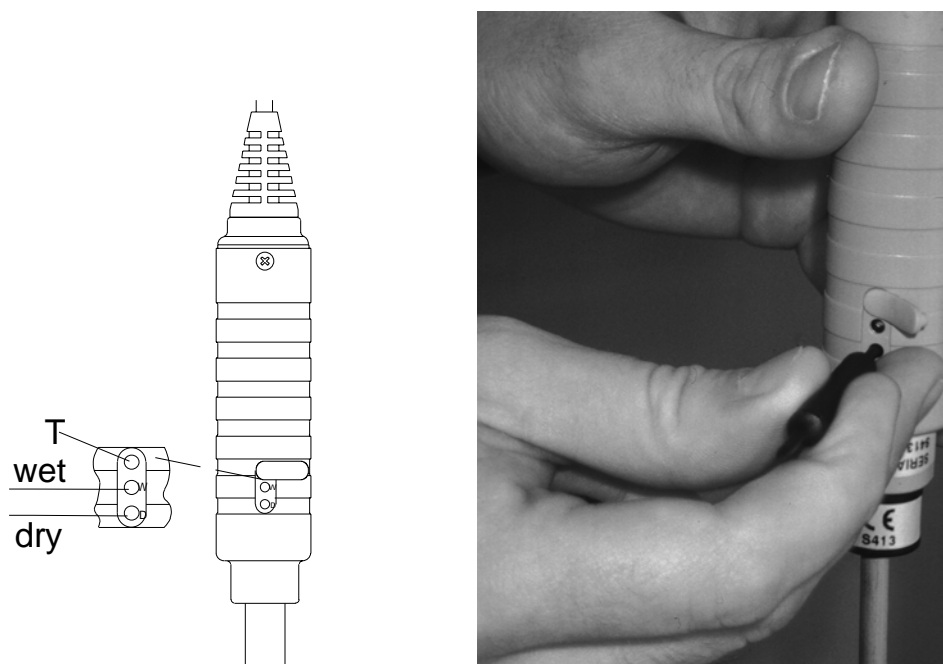

Figure 5.2.1 Adjusting the trimmer potentiometers
Humidity calibration of the HMP42 probe is done by adjusting trimmer potentiometers. The potentiometers are located under a protective plug. The potentiometer marked T (temperature) is for factory use only; DO NOT make any adjustments. To make sure that this potentiometer is not accidentally touched when adjusting the other two, turn the plastic plug aside without removing it completely (see Figure 5.2.1).
- Wait until the humidity reading stabilizes (approx. 30 minutes). Check the temperature and read the closest humidity value in the calibration table. Adjust the dry end reading with the potentiometer D (dry) in the probe body to correspond to the value given in the calibration table; use a suitable trimming screw wrench (see Figure 5.2.1).